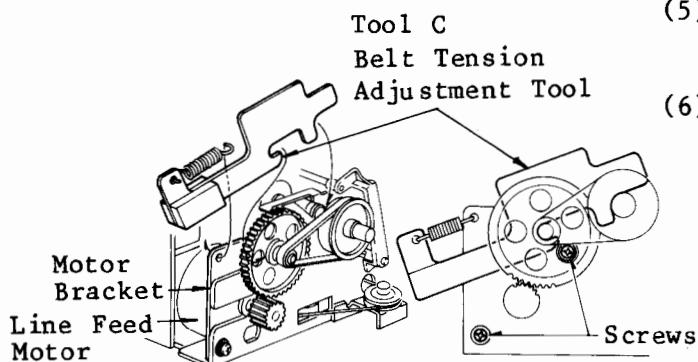

Figure 118
- (2) Mount the motor bracket on the printer frame; then, secure it temporarily with screws.
- (3) Fit the line feed belt onto the platen pulley and idle gear.
- (4) Mount the belt tension adjusting tool (Tool C) as shown in Figure 118.
- (5) Loosen the screws holding the motor bracket; then, tighten them again.
- (6) Install the PCB bracket.